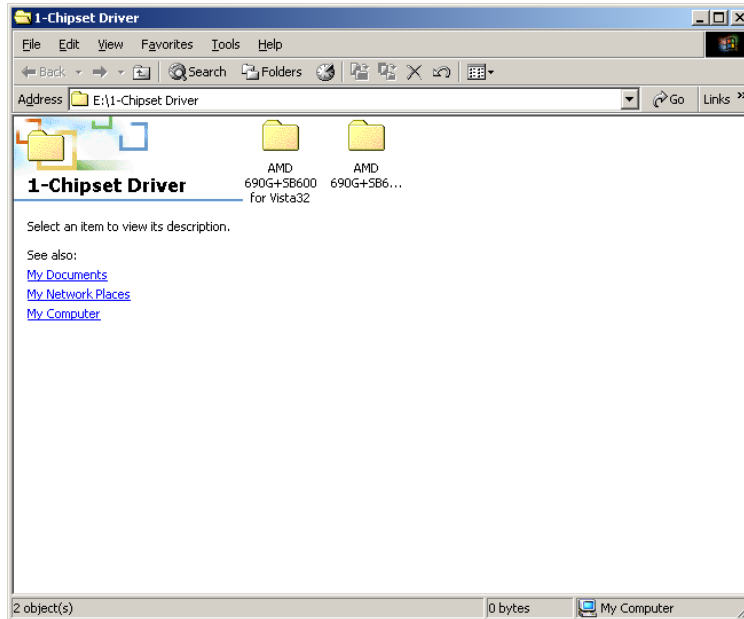

Figure 7-27: Chipset Driver Installation Program
Step 2: A new window opens (**Figure 7-27**).